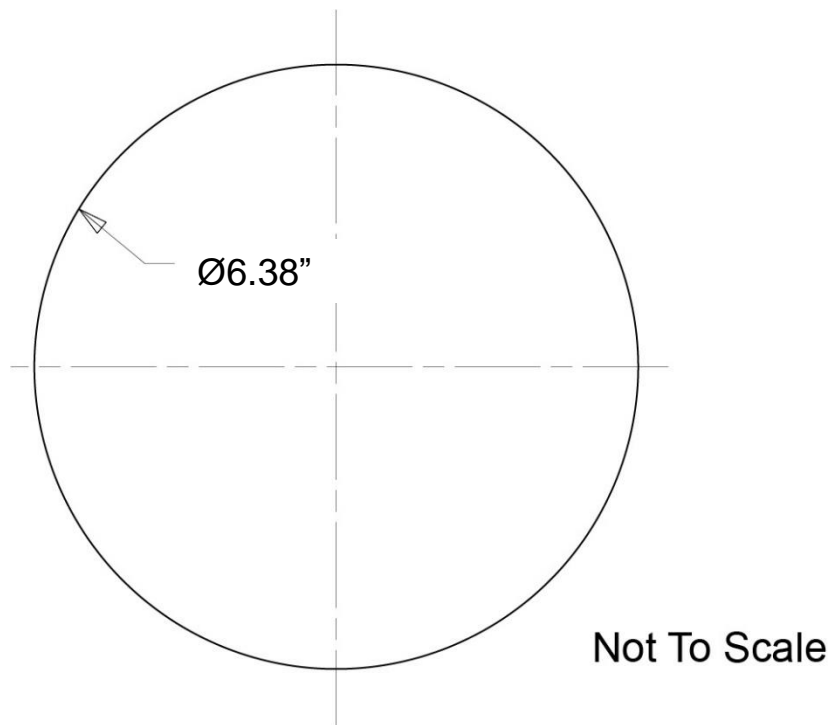

Figure 7
2. If not already done, cut a hole in the ceiling tile using the paper template provided. Refer to Using the Template section but use the template for the V2100D-ICD shown in Figure 7 below. Place the template at the center of the required location, mark the outer profile and cut the hole in the tile.